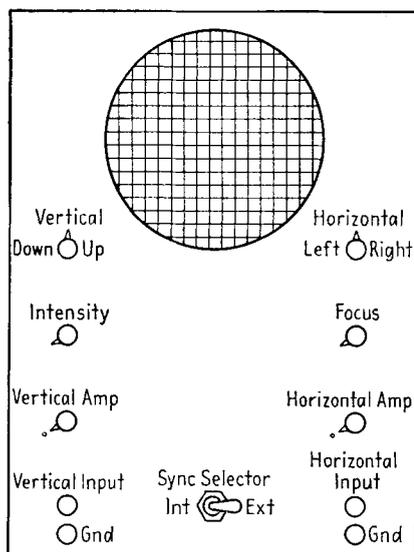

FIG. 26-16. Controls of a basic oscilloscope.
**The cathode-ray oscilloscope.** The oscilloscope, like the sweep generator, exists in a variety of forms. For any specific instrument, the manufacturer's service notes should be read carefully. But, once again, we shall synthesize an oscilloscope and its controls for the sake of the alignment procedure. Every commercial instrument will have these controls in one form or another. The synthesized oscilloscope is shown in Fig. 26-16.